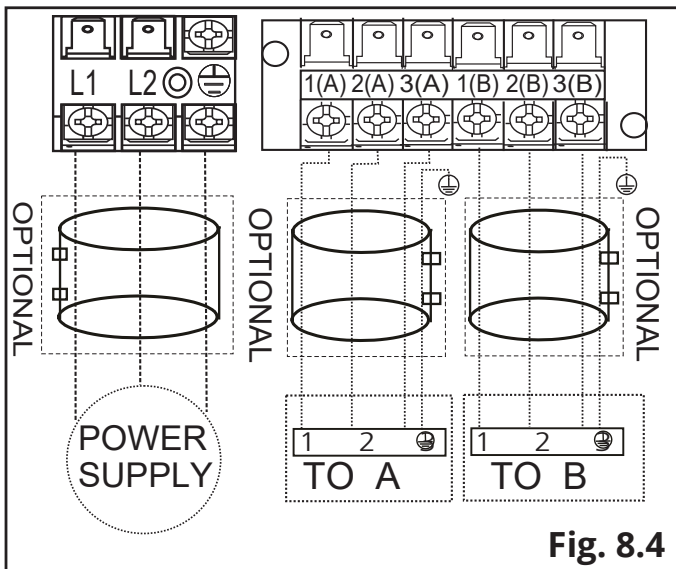

Fig. 8.4
See wiring diagrams on the following pages for each type of multi-zone system (Fig. 8.4 - 8.7 on the following page) and take note of the following precautions:
- All wiring must be performed in accordance with the wiring diagrams shown in Figs. 8.4 - 8.7 and demonstrated in the images shown here.